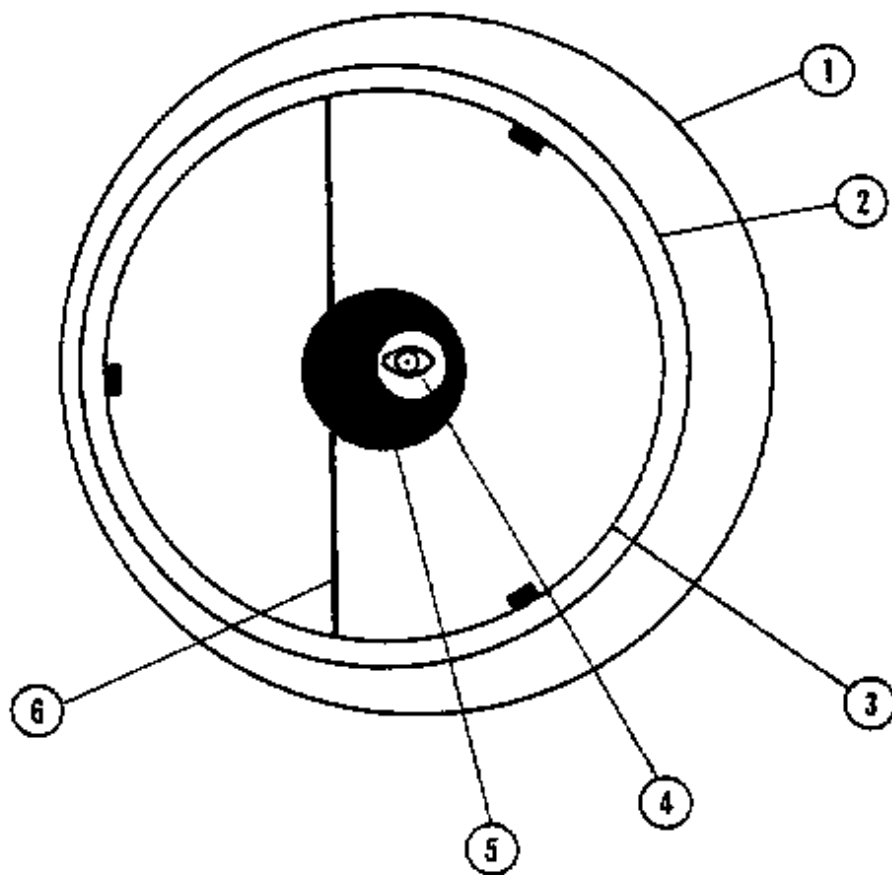
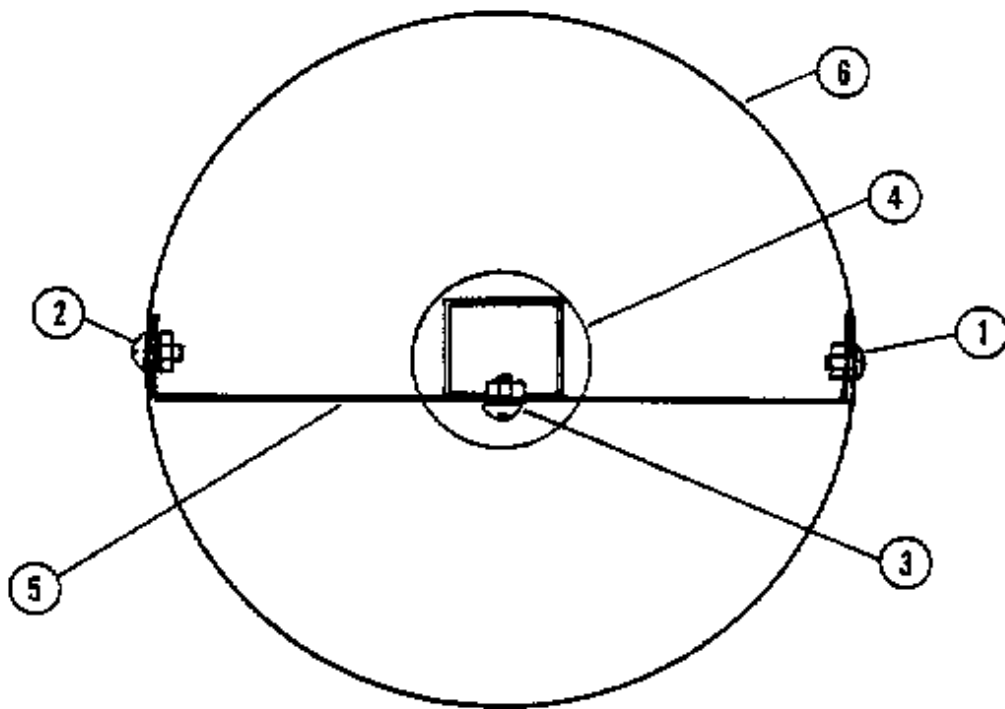
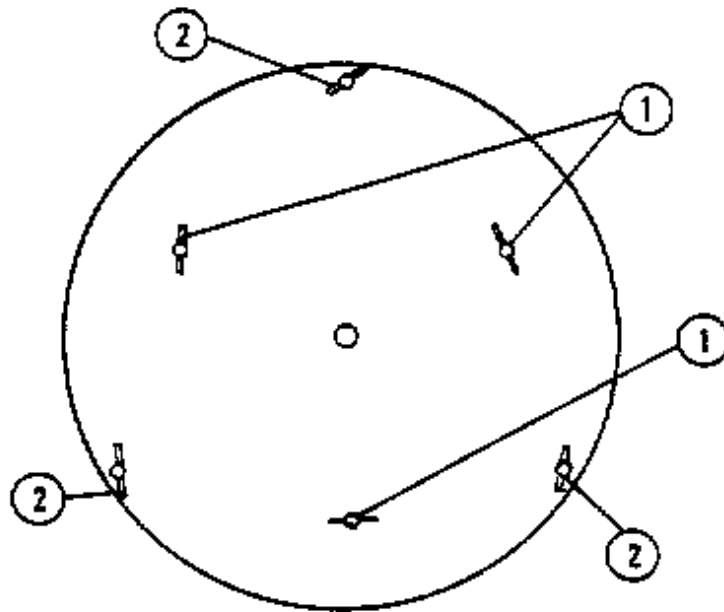

FIG. 2: Collimation of the DS-10 Optical System
FIG. 3: The Secondary Mirror System (Looking down the optical tube toward the primary mirror)
FIG. 5: Primary Mirror Cell (As seen from behind the primary mirror.)
Fig. 2 shows a correctly collimated DS-10 telescope, as it appears when viewed through the focuser with the eyepiece removed. To check and, *if necessary*, set the optical collimation follow these steps:
(circle 2, Fig. 2) should appear slightly offset to the left, as shown in Fig. 2. If the secondary mirror does *not* appear correctly offset, then slightly loosen the secondary-mirror-holder's attaching screw (see (3), Fig. 3), and move the secondary mirror so that this mirror appears offset as shown in Fig. 2.
Step 2: Center the primary mirror (circle 3, Fig. 2) in the secondary mirror. This centering, if necessary, is accomplished by loosening slightly screws (1) and (2), Fig. 3, so that the single-strut steel vane, (5), Fig. 3 may be pivoted up or down. In addition, loosening screw (3), Fig. 3, permits lateral centering of the primary mirror in the secondary mirror. Re-tighten all screws when the required centering is accomplished.
Step 3: Turn the wing nuts located on the back side of the primary mirror cell (see Fig. 5), so that the dark circle, (5) Fig. 2, is centered relative to the primary mirror, (3) Fig. 2. (These wing nuts adjust the tilt-angle of the primary mirror.)